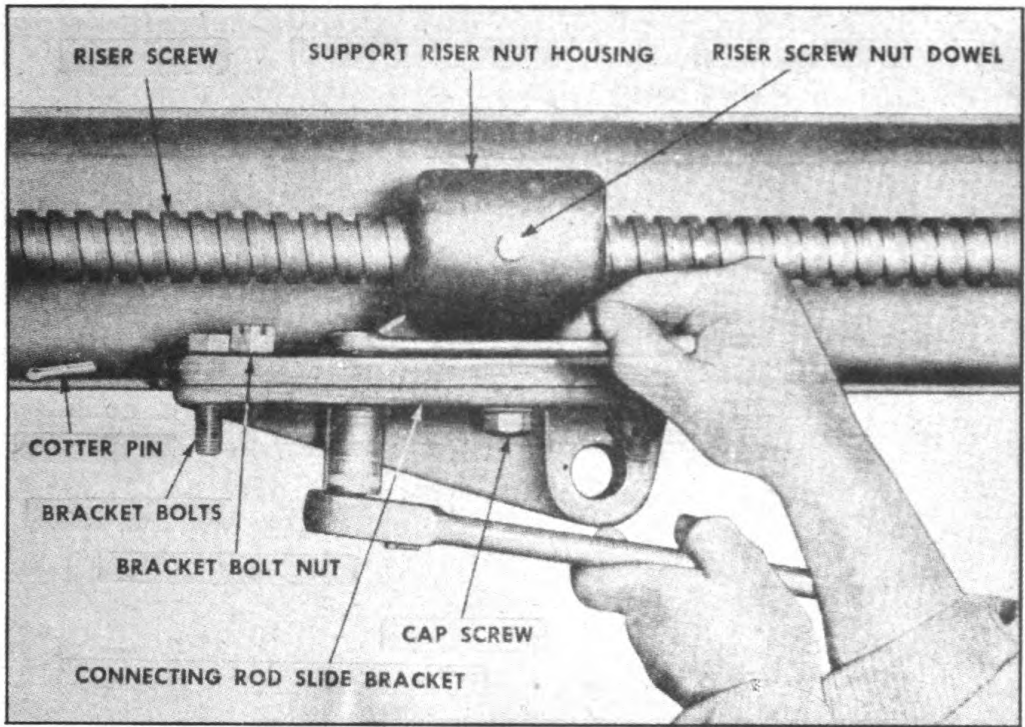

FIGURE 63. REMOVING SUPPORT SLIDE BRACKET
c. Remove the three bolts and one cap screw holding connecting rod bracket and riser nut housing together (Figure 63).
(6) Remove the three bolts and one cap screw from connecting rod bracket (Figure 63).